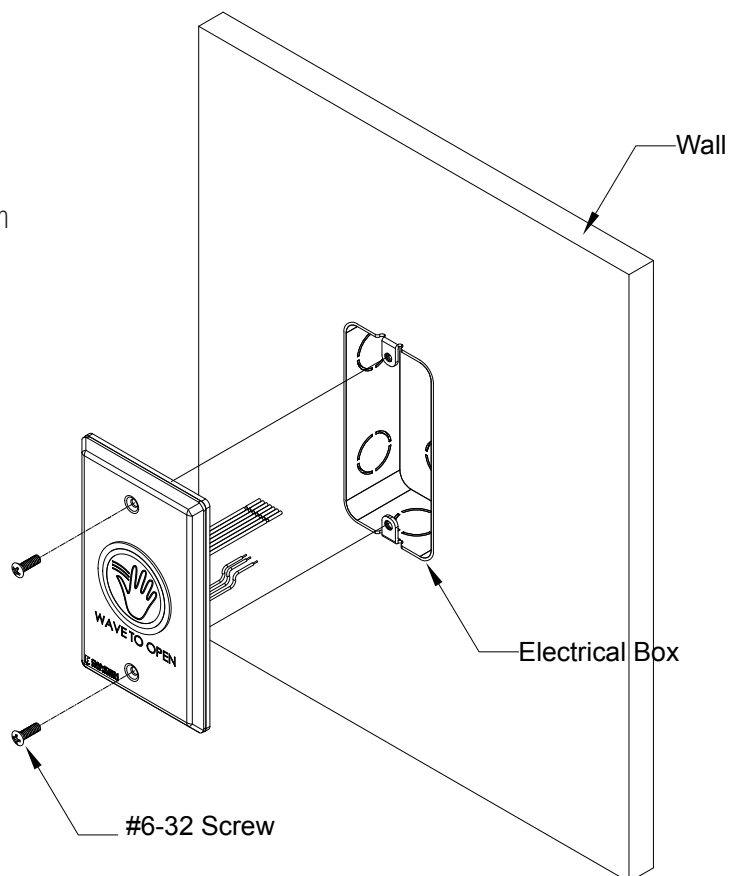

Figure 4.5.2 Single Gang Installation
1. Ensure that the in-wall electrical box is plumb, square and flush with the wall surface (See Figure 4.5.2)